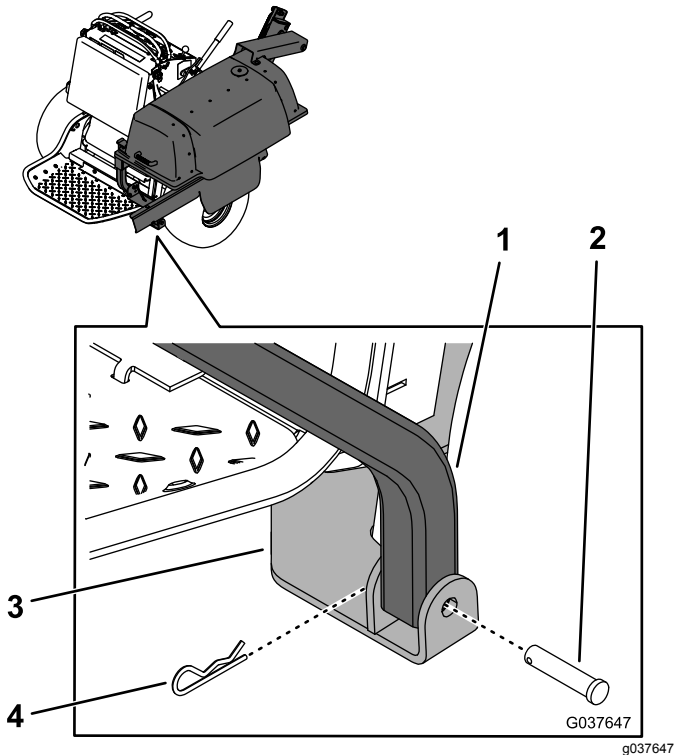

Figure 13
1. With the assistance of another person, lift the bagger frame and secure the bottom, rear side of the frame to the lower mount bracket using a clevis pin and hairpin cotter (Figure 13).